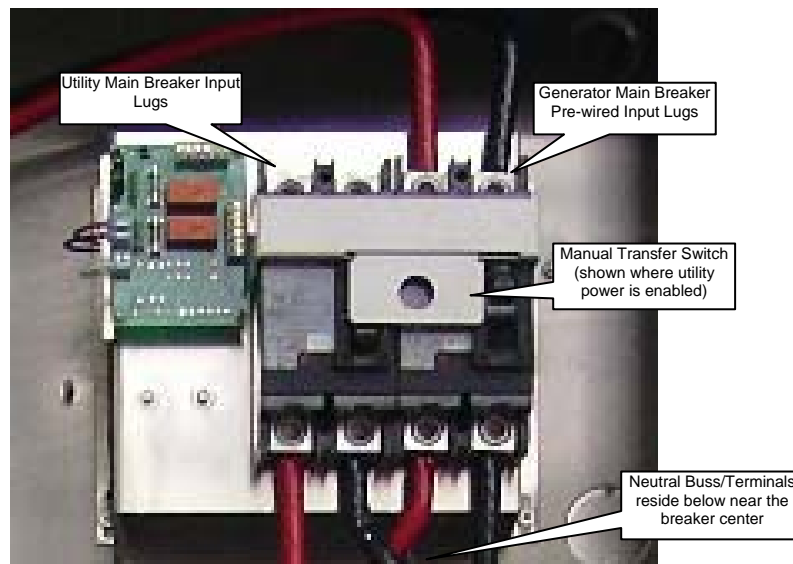

Figure 6 – PPC with MTS Main Breaker Layout (left: Commercial power, right: generator)
- 2.3 The two "hot" conductors (Line1 & Line2) should be installed in the "Utility Main Breaker Input Lugs" on the top of the Commercial Main Breaker (see Figure 6, MTS unit shown).
- 2.7 Under normal circumstances, the "Manual Transfer Switch" (sliding bar) should have the open end over the left-most breaker allowing the Commercial Disconnect to be ON (see Figure 6).
3. Generator Operation with MTS Option (refer to Figure 6 for procedures):